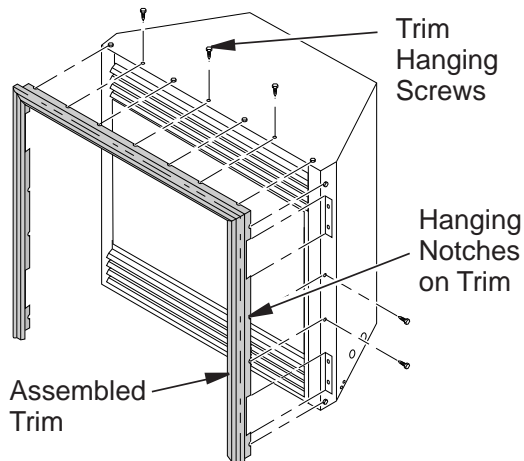

Figure 7 - Attaching Perimeter Trim to Fireplace
8. Tighten trim hanging screws (#10 x 6.25 shoulder) into holes in cabinets. Place the assembled trim onto fireplace cabinet. Align hanging notches on trim with hanging screws on side of fireplace (see **Figure 7**). Push trim firmly into place, sliding hanging notches over hanging screws.
9. Install trim after final finishing and/or painting of wall (see **Figure 7**, **Page 10**).